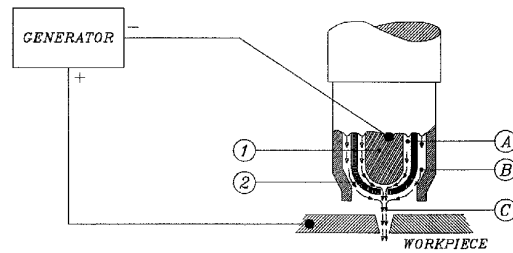

Fig. 5 Functional diagram of a first-generation torch
Initially, for plasma cutting, a torch was used with a front end structure as in Fig.5 and two types of gas: a first one for the formation of the plasma (A) that passes between the electrode (1) and nozzle (2) and is forced to exit in an ionized form through the hole, and a second one (B), that acts to cool the torch and further thins out the dimensions of the plasma arc, which at its centre (C), easily manages to reach the temperature of 10.000°C.